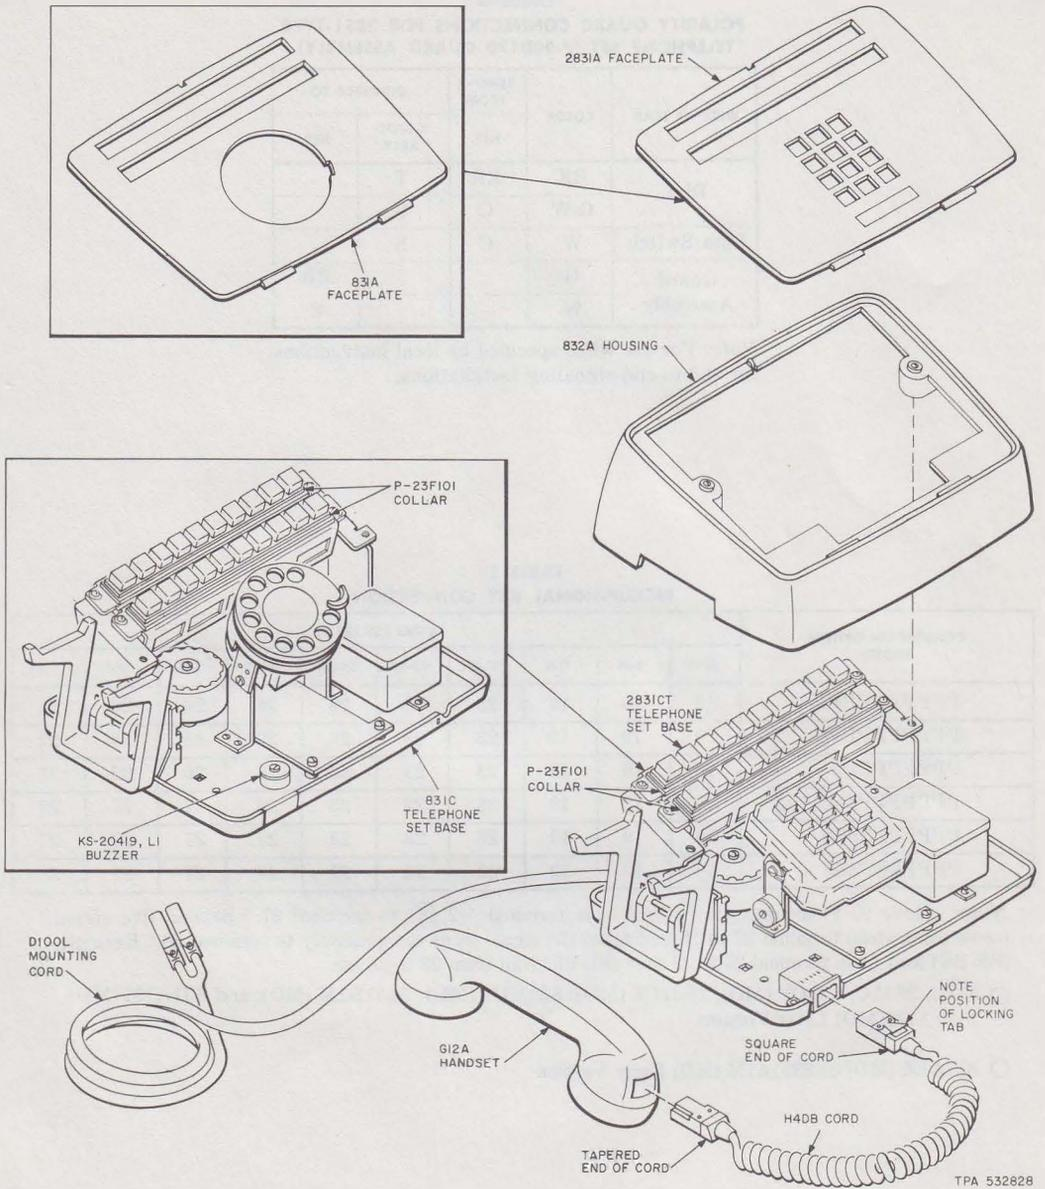

Fig. 6—Station Modular Arrangement, 831- and 2831-Type Telephone Sets
3.06 The 831C and 2831C telephone set bases are equipped with a KS-20419L1 (10 volt AC only) buzzer mounted on the basepan on the left-hand side of dial (Fig. 6). The buzzer leads are connected to (O-Y) and (Y-O) mounting cord leads. Plastic